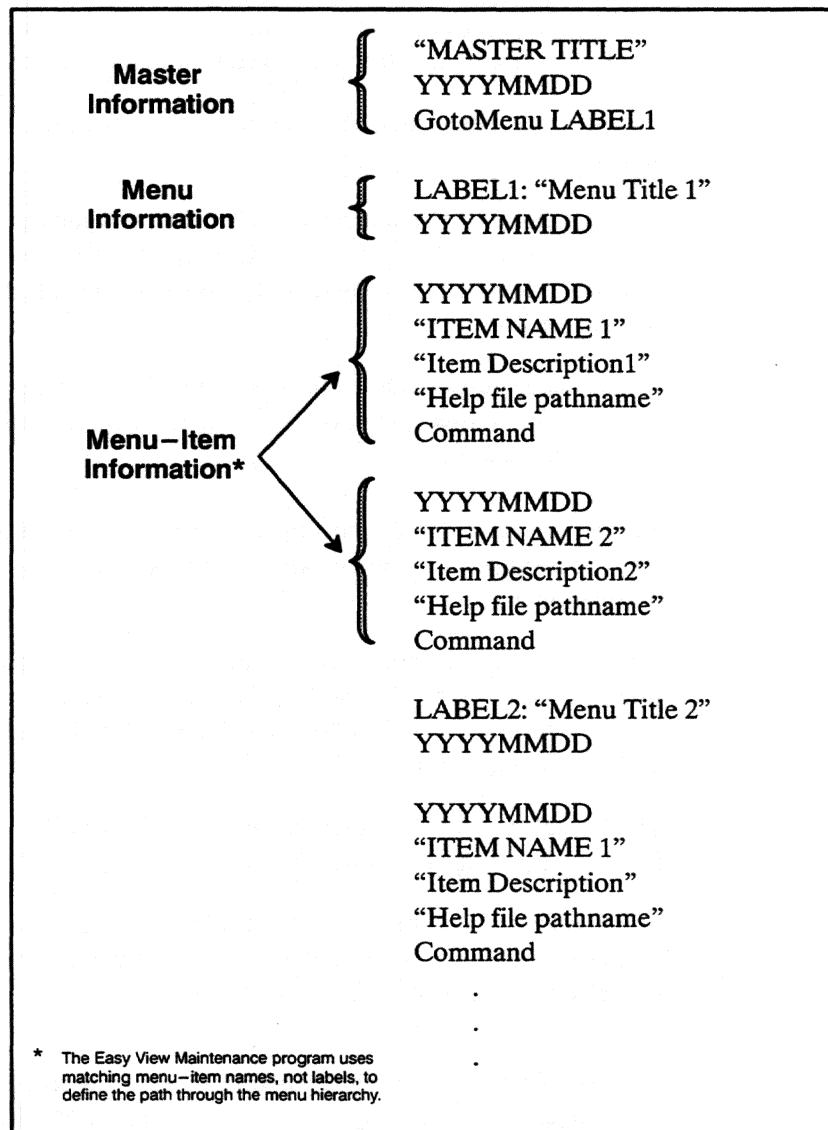

Figure 20-16 Script-file format.
There are three categories of information within script files: master information, menu information, and menu-item information. See Figure 20-16 for the general format of a script file and Section 20.5(D) for sample script files.